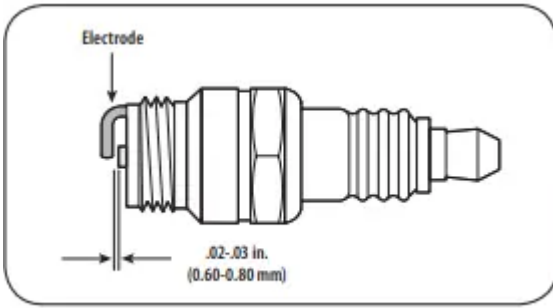

Figure 56
- Measure the plug gap with a feeler gauge. Correct as necessary by bending side electrode. See Figure 56. The gap should be set to .02-.03 inches (0.60- 0.80 mm).